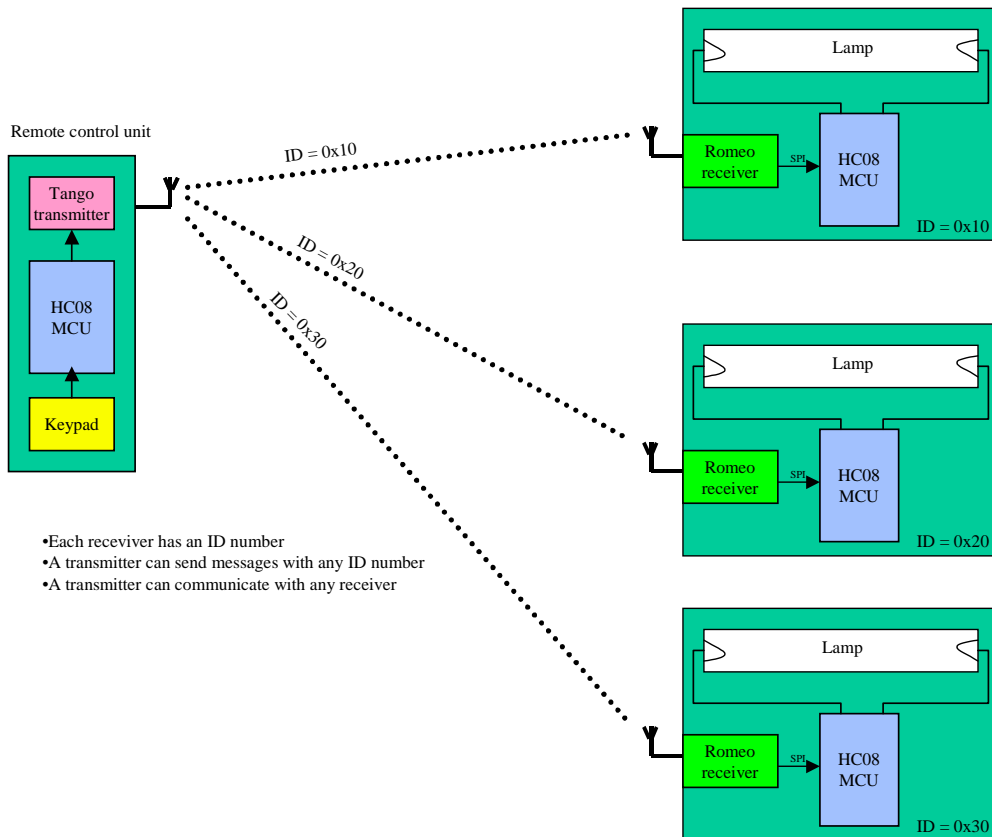

Figure 1. Simple RF Network
Figure 1 shows a simple example lighting network with three lighting fixtures (each with a Romeo2 receiver) and one remote control (with a Tango3 transmitter). Each receiver is assigned a unique 8-bit identifier (ID). The transmitter can send messages to each receiver by changing the ID in the transmitted message. Additional transmitters and receivers could easily be added to this system.
Tone signalling is used in systems where all the receiver nodes must wake up and check each RF message. For example, in the simple lighting network shown in Figure 1, it could be desirable to control all the lights simultaneously. To do this, each node is assigned an ID of 0x00 or 0xff (i.e., the ID is all '1's or all '0's'). Then, all receivers will accept each message sent at the same time.